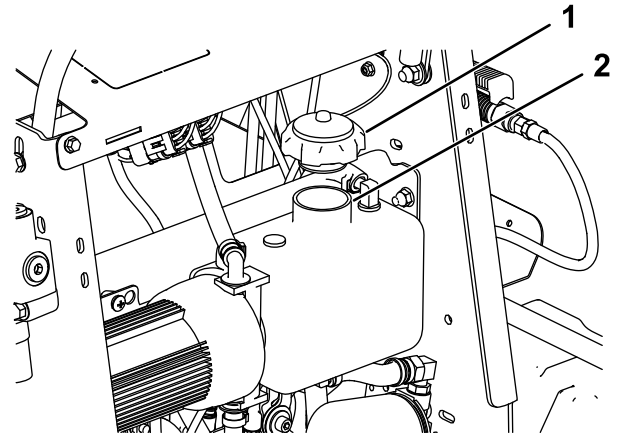

Figure 52
2. Remove the hydraulic-tank cap (Figure 52).